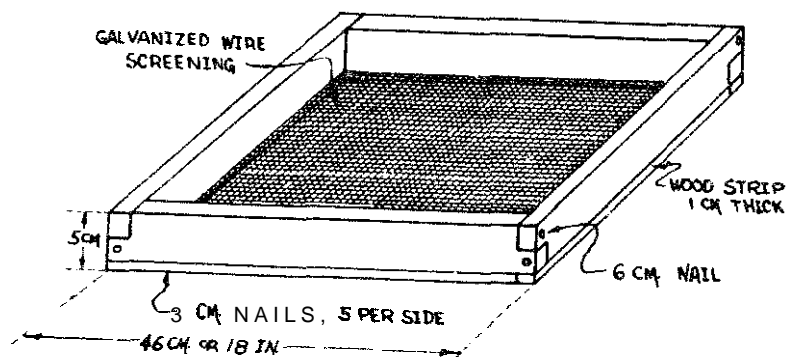

FIGURE 1
As shown in Figure 1, the chute is attached at the top of the 80cm (2'7") support by nails whose heads have been removed. This makes it easy to remove the chute when it is not being used. The chute's lower end sits on the 2cm x 4cm x 25cm (3/4" x 1 1/2" x 10") support attached to the platform.
- o Waterproof chest that will keep out vapor, to dry and store the grain. A steel drum or sheet metal cabinet would be good. A wooden chest can be used if it is vapor-proof, as in Figures 1, 2, and 3.